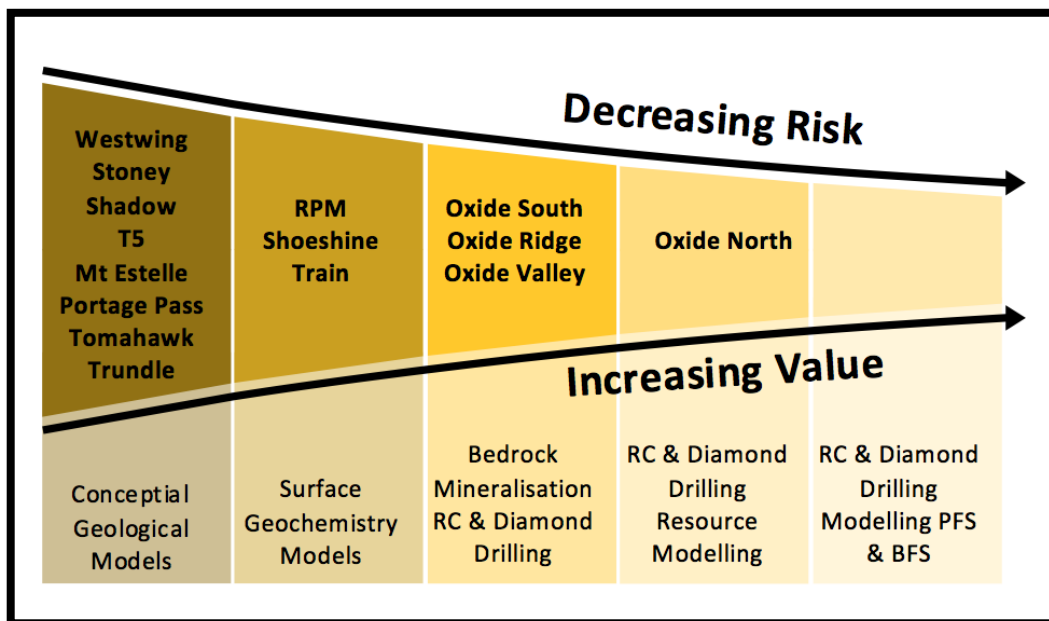

Figure 3: Estelle Project Pipeline
Minerals explorer and developer **Nova Minerals Limited (ASX:NVA FSE:QM3)** (‘Nova’ or ‘the Company’) is pleased to announce the discovery of high grade gold material for a “Starter Pit” scenario within Block B of the Oxide Korbrel deposit from phase 1 resource drilling (**Table 1**). These holes were drilled as part of a Reverse Circulation (RC) drill program completed during the 2019 field season. The Oxide Korbrel deposit is one of fifteen known gold occurrences located on the Estelle Gold Project to follow up (**Figure 3**).